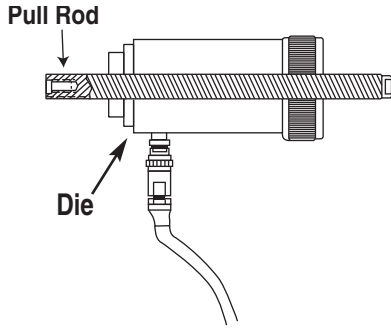

Figure 6
- 3 Select the punch set needed. Slide the die over the pull rod (Figure 6).